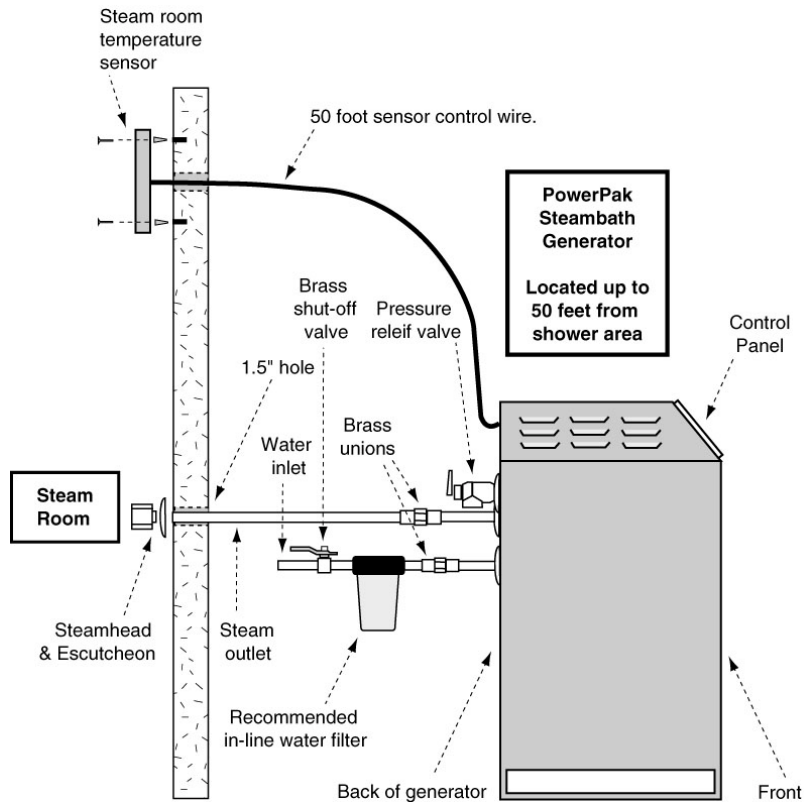

Figure 1
Refer to figure 1 for the following:
3. Install the temperature sensor in the steam room approximately 5 feet above the floor. (figure 1)